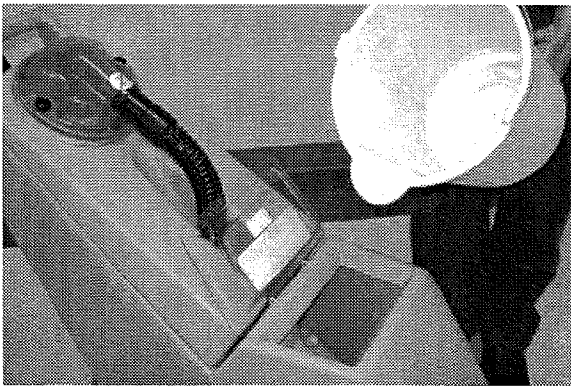

FIG. 1
2. Fill solution tank with 30.8L (7 gal) of hot water, 60°C (140°F) maximum (Figure 1).